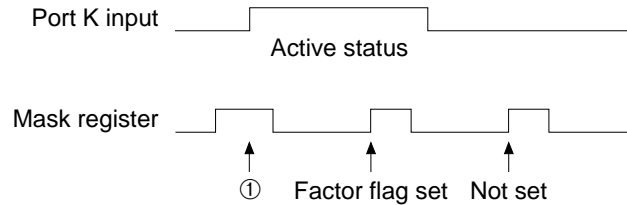

Fig. 4.1
For example, a factor flag is set with the timing of ① shown in Figure 4.1. However, when clearing the content of the mask register with the input terminal kept in the high status and then setting it, the factor flag of the input interrupt is again set at the timing that has been set. Consequently, when the input terminal is in the active status (high status), do not rewrite the mask register (clearing, then setting the mask register), so that a factor flag will only set at the rising edge in this case. When clearing, then setting the mask register, set the mask register, when the input terminal is not in the active status (low status).